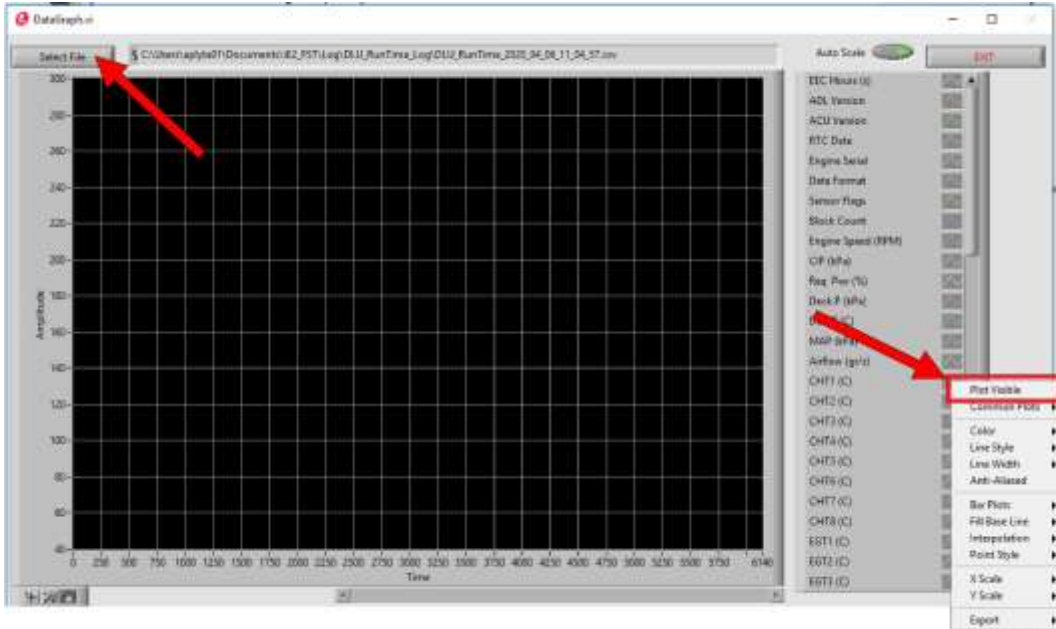

Figure C-36
4. Click the “Select File” button (Figure C-36) to open the file for path selection and select a runtime file.
6. Click the “Plot Visible” button on the drop-down menu (Figure C-36).